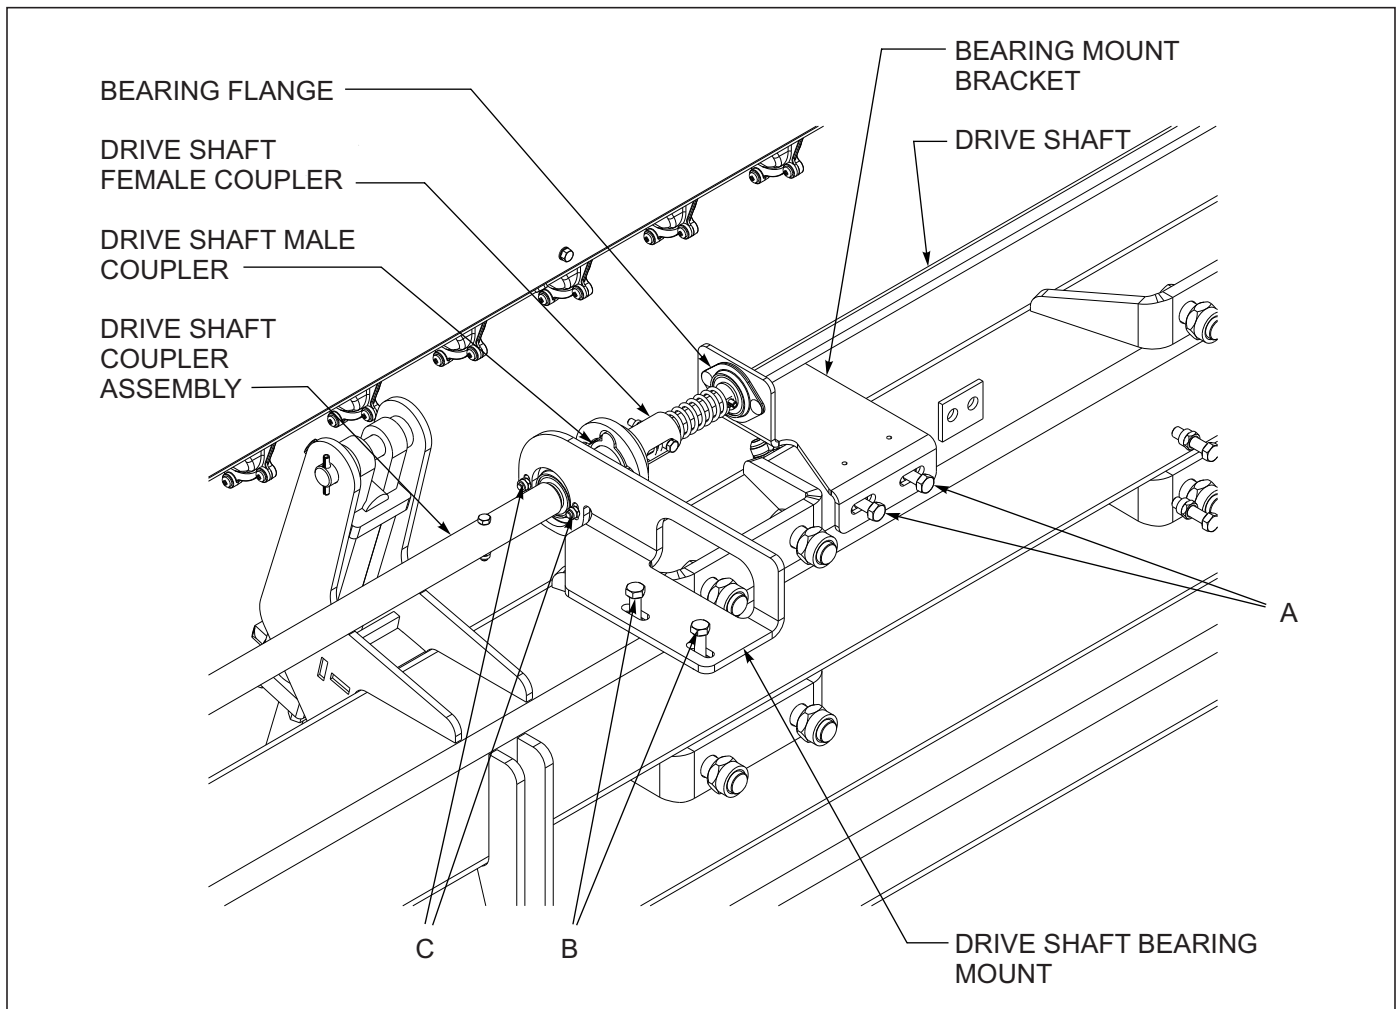

Figure 4-37: Drive Shaft - Coupler Alignment
1. To align the coupler, loosen the adjustment bolts A, B, and C **See Figure 4-37.**